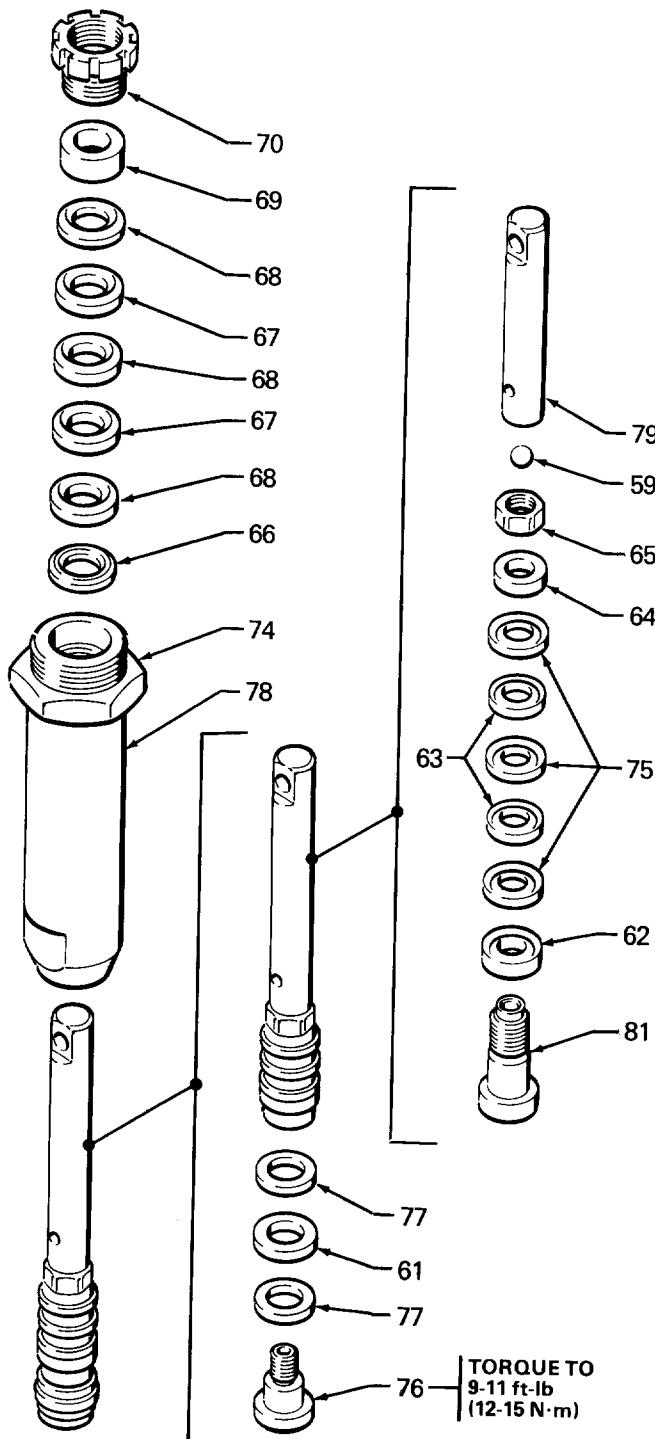
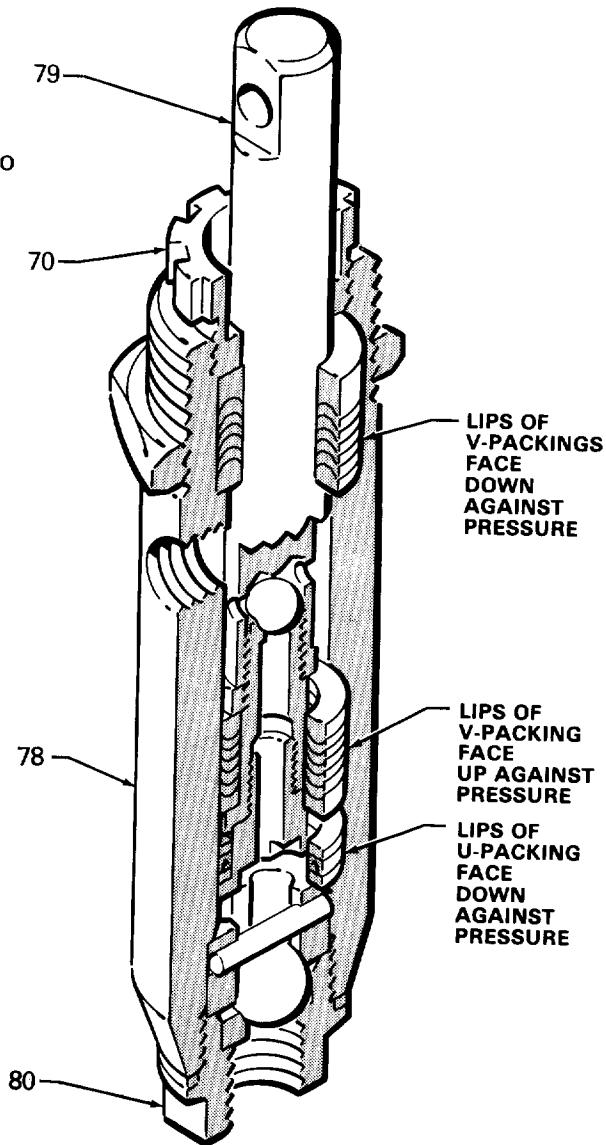

Fig. 16
Fig. 17
Unscrew and remove packing nut (70). Using a rubber mallet, tap piston rod (79) down and pull out through bottom of cylinder (78). See Figures 16 and 17.
Clamp flats of piston rod in a vise. Use a large screwdriver to unscrew adapter (76) from valve (81). Remove seal (61) and washers (77). See Figures 16 and 17.
When reassembling piston, install new glands and packings in correct order, alternating leather and plastic packings. See Fig 16. The lips of the V-packings must face up against fluid pressure. See Fig 17. Tighten the nut (65) to 10.5 in-lb (1.2 N·m) to seat the packings, *then back off the nut and hand tighten it.*
Install throat packings, glands and packing nut, leaving packing nut loose. The lips of the V-packings must face down against fluid pressure. Alternate plastic packings (68) and leather packings (67) in order shown in Fig 16.